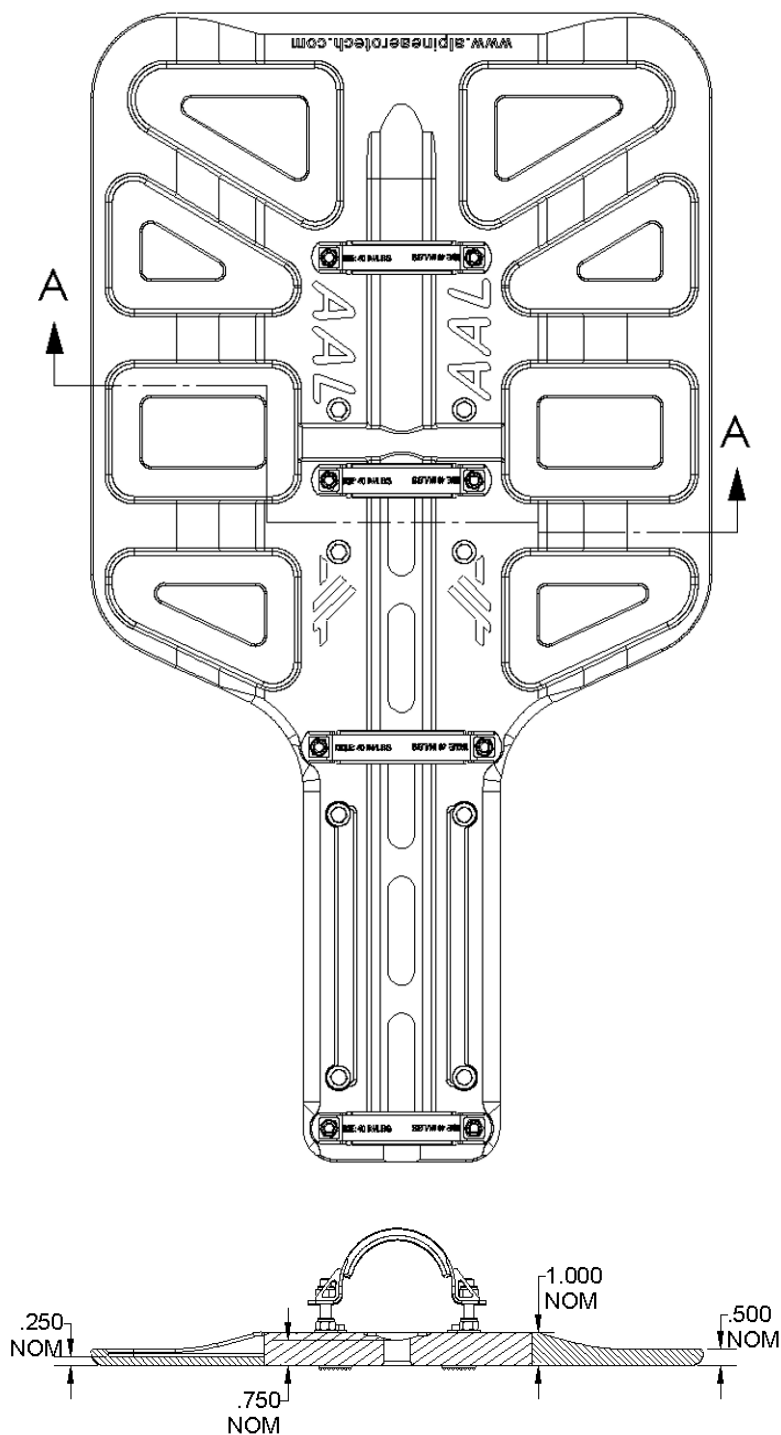

Figure 1
- v. In the shaded regions  ,  of Figure 1 the Bear Paw may be worn to a maximum depth of 0.125.
- vi. In the shaded  region of Fig 1, it is acceptable to have damaged areas up to a maximum depth of 0.125 over a maximum area of 2 sq. in. Damage includes but not limited to scratches, gouges and deformed areas.
- viii. Cracks are acceptable in the shaded  portion of Fig 1 as long as they are restricted to the pockets of the bear paws, and do not exceed 0.50 long. Cracks that penetrate the stiffening ribs of the same area are unacceptable. Stop drill all cracks up to 0.50 long with $\varnothing 0.188$ drill.
- ix. Inspect items 3 & 5, Strap, Assy's for cracks and hole elongation. If cracks are detected, or holes are elongated more than 0.025, replace the Strap, Assys (Items 4 & 7) immediately.
- x. Inspect items 2 & 4 Cap, Details for wear and damage and replace as required.